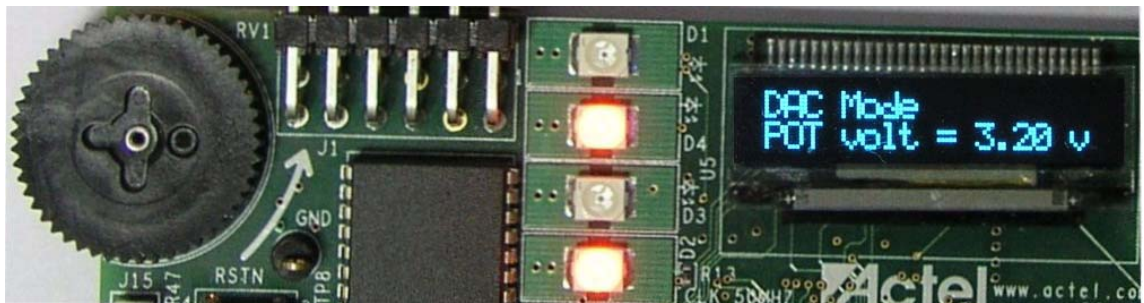

Figure 2-9 · DAC Mode – Potentiometer Voltage Measurement
- Press SW3. The OLED displays voltage reading from the potentiometer (Figure 2-9).